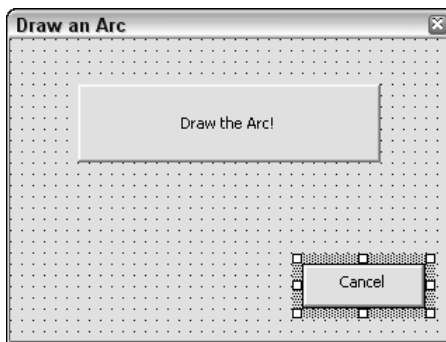

**Figure 37-9:** A simple dialog box created in VBA.
9. Change the Caption property of the smaller button to Cancel. Change its Name property to `cmdCancel`. Your dialog box should look like the one in Figure 37-9.